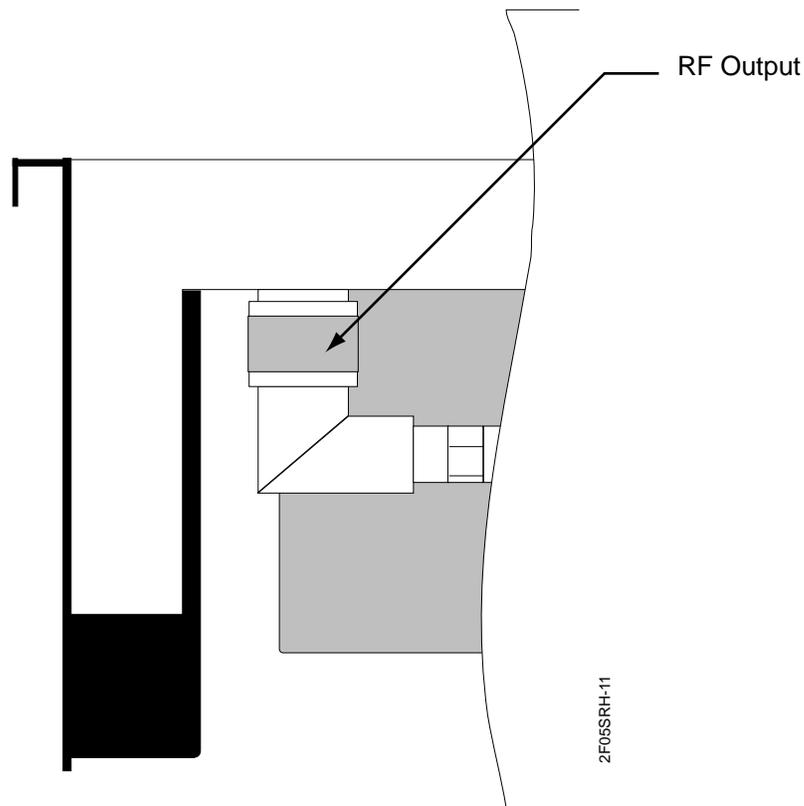

Figure 13-3: Location of RF Output Connector in a High Power Nucleus Paging Station
6. Disconnect the N-type connector (RF output from the Exciter) from the cutout in the lower left corner of the PA (see Figure 13-3).